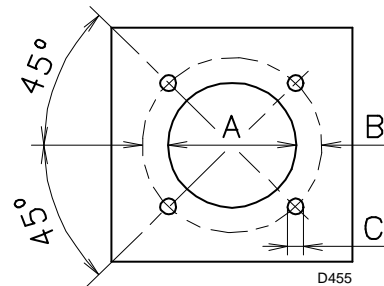

Fig. 14
Drill the combustion chamber locking plate as shown in Fig. 14 (Tab. K). The position of the threaded holes can be marked using the thermal screen supplied with the burner.
- Fit the entire burner onto the boiler hole prepared previously (Fig. 14), and fasten with the screws supplied.